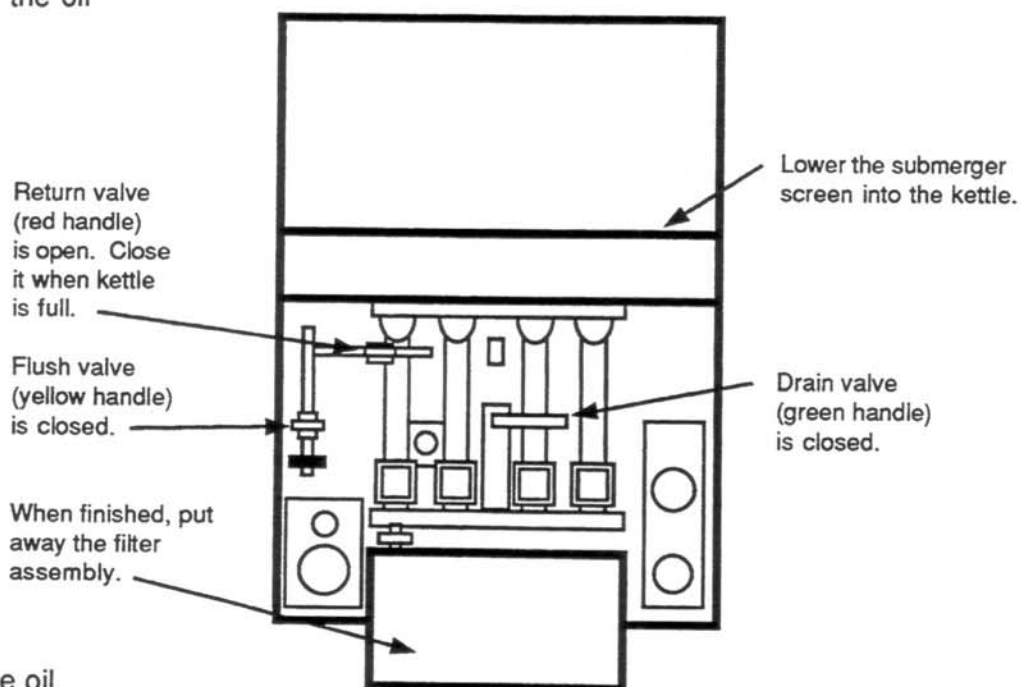

Fig. 22
22. Close the drain valve (green handle) as shown in Fig. 22. Move the handle counterclockwise so that it points to the left.